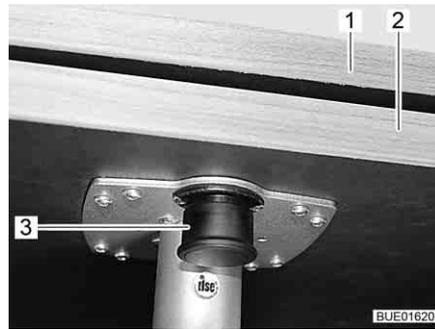

Fig. 103 Swing-out table extension
- Pull the knob (Fig. 103,3) of the lock down and swing out the table extension (Fig. 103,2).
- Swing the table extension (Fig. 103,2) under the table-top (Fig. 103,1) until the lock latches in place audibly.